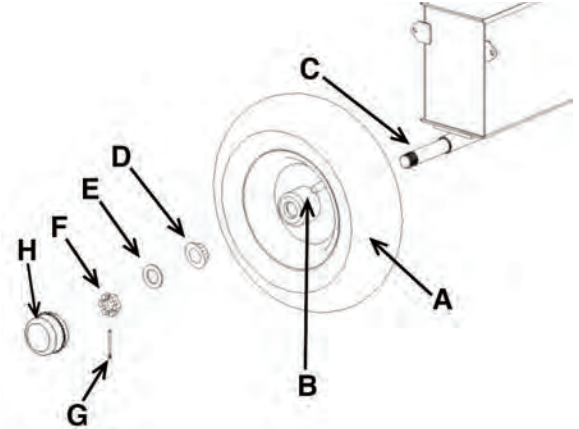

Figure 1
- 1) Slide wheel (A) Fig.1 onto axle (C) with valve stem (B) facing out.
- 2) Slide outer bearing (D) onto axle (C) (outer bearing may be shipped loose in parts bag or loose inside wheel). Outer bearing taper points towards log splitter.
- 3) Slide wheel washer (E) onto axle.
- 4) Thread axle nut (F) onto Axle (hand tighten only). Back axle nut off 1/4 turn. Make sure wheel spins freely.
- 5) Insert cotter pin (G) through hole in axle (C) and bend it so axle nut (F) can't come off. Make sure wheel spins freely.
- 6) Tap dust cap (H) onto wheel with a soft faced mallet. Repeat for the other wheel.